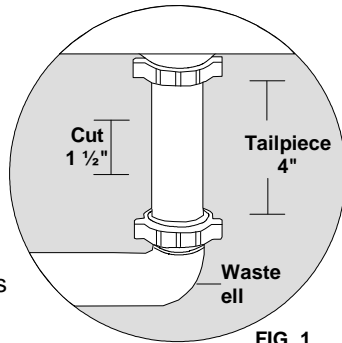

FIG. 1
1. Measure the midpoint on the vertical tailpiece between the basket strainer and the horizontal waste ell. A minimum of 4" of "exposed" tubing is required. (See Fig. 1)
2. Cut out 1 1/2" of tubing (3/4" on both sides of midpoint measurement). (See Fig. 1) Always ensure that tube ends are cut squarely and inserted into the bottom of all slip joint (S.J.) sockets.
NOTE: To install the ET112-001 to a single compartment sink without disposal, follow instructions 1-6 above with the following exception: Once you have removed 1 1/2" of the tubing from the center of the tailpiece (Fig. 1), disconnect and lower the J-bend of the trap. Insert the 3-way repair tee, then reconnect the trap. Use a bowl to catch trap water. (See Fig. 6)